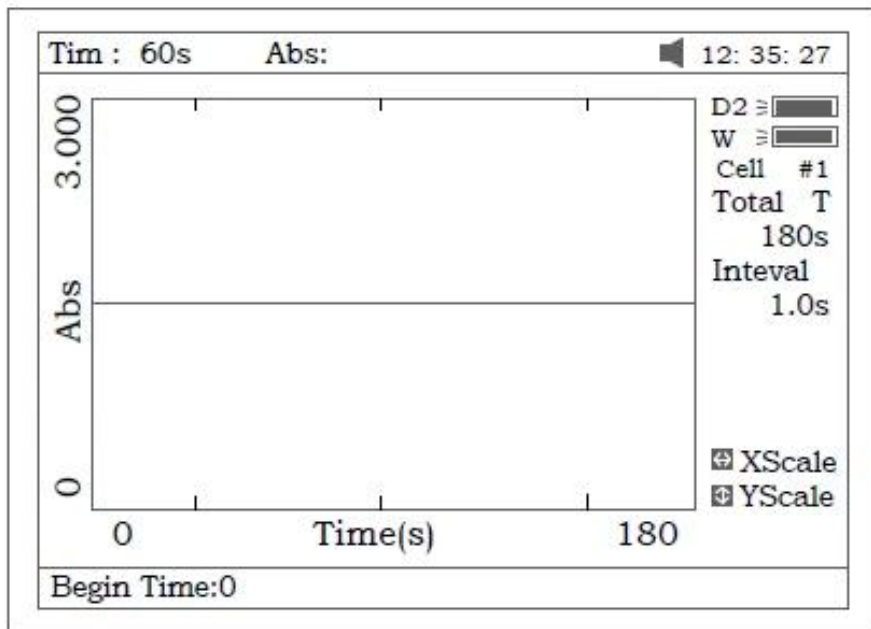
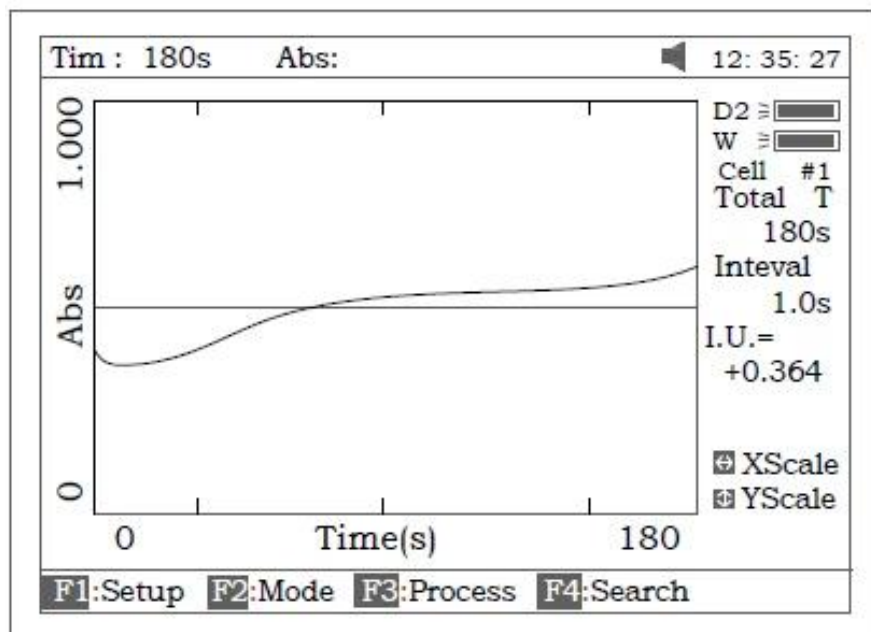

Figure 57
Figure 58
5. Press **【F3】** to process the data, and enter "Begin Time", "End Time" and "Factor" (Fig 57) and the value in I.U. will be calculated and displayed (Fig 58). The average straight line between the Begin Time and End Time will be calculated. The gradient of this line gives the rate of change of  $\Delta A/\text{min}$ .